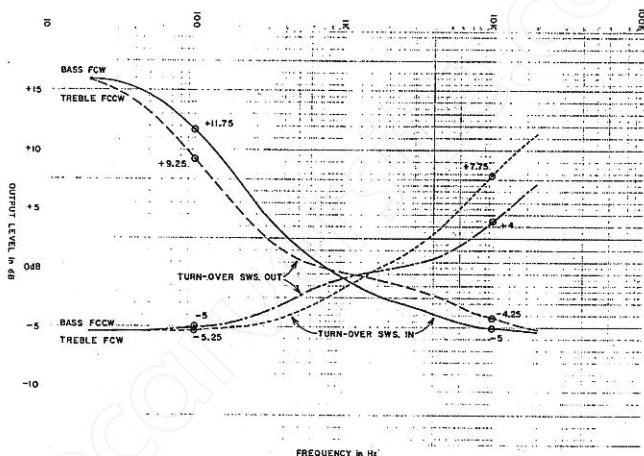

Figure 6-2. Tone Control Turnover Response
- C) Referring to Figure 6-2 and Table 6-2 below, set input frequencies and bass and treble TONE CONTOUR controls and TURNOVER switches per the indicated settings and verify that the FREQUENCY RESPONSE at each output is within ± 0.5 dB of the values indicated at each of the test points (circled).